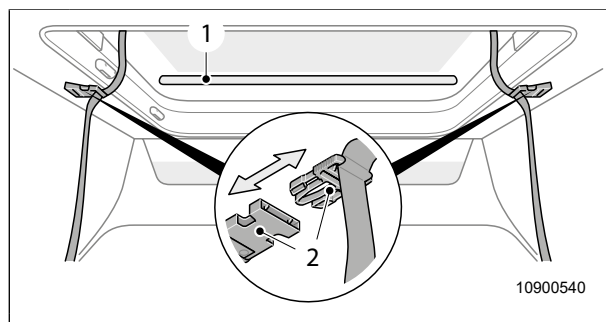

Fig. 45 Closing the quick-release buckles
9. Close the quick-release buckles (Fig. 45, item 2) on the right and left side.